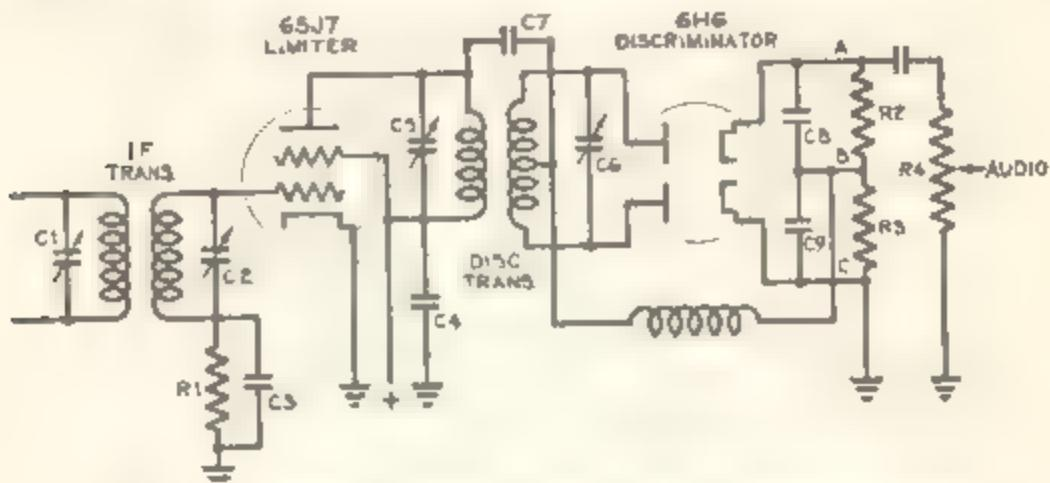

Figure 4 Simplified Circuit of FM Limiter and Discriminator
An FM receiver contains the customary RF, oscillator and IF stages. In some receivers, however, these are broadly tuned in order to pass the band of \pm 75 KC. This is usually accomplished by overcoupling, resistance loading, or a combination of both. In other cases RF and IF transformers with normal characteristics are used. In addition, an FM receiver contains a limiter and discriminator. The purpose of the limiter is to cut off any amplitude modulated signals above the level of the carrier that may find their way into the circuit. Included in these are man-made electrical interference and static. The discriminator stage converts the frequency variation of the carrier into audio signals. A typical limiter and discriminator circuit is shown in Figure 4. If the manufacturer's alignment instructions are available, they should be followed, but in the absence of such instructions, the general procedure is as follows:
- c. Connect a high resistance DC voltmeter such as the Simpson 260 or preferably a vacuum tube voltmeter such as the Simpson 266 across the load resistors of the discriminator, points A and C in Figure 4.
- e. Adjust the secondary condenser shown at C6 in Figure 4 for minimum indication on the meter. This should result in zero reading across A and C. If more than one position is found for C6, use the one which causes an increase in the reading when the condenser is detuned slightly in either direction.
- a. Connect a micro-ammeter in series with the limiter grid resistor shown as R1 in Figure 4. A Model 260 can be used or if a vacuum tube voltmeter is available, it can be con-